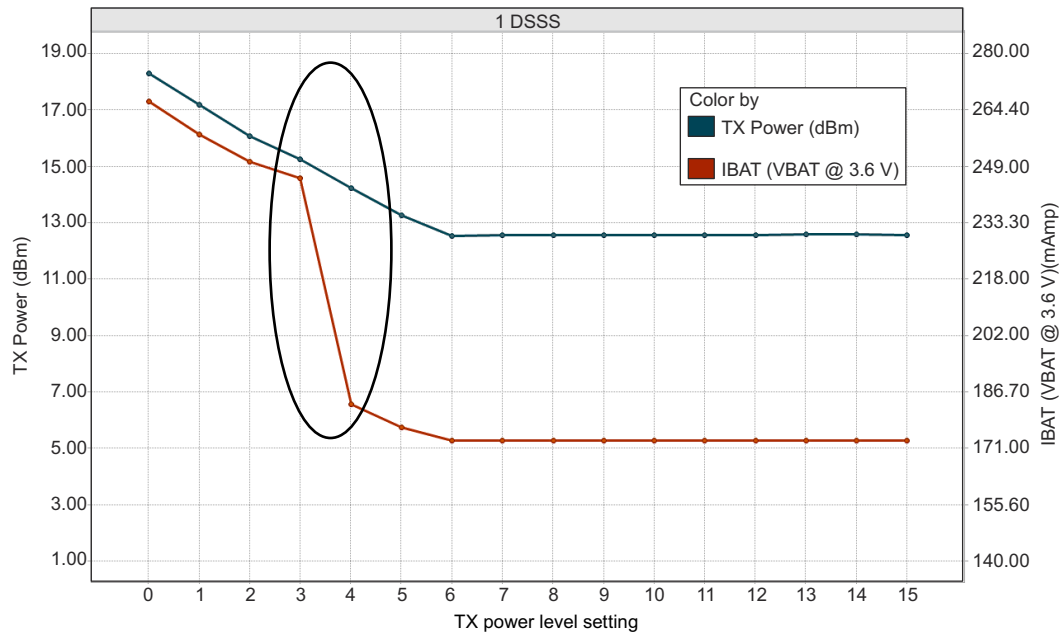
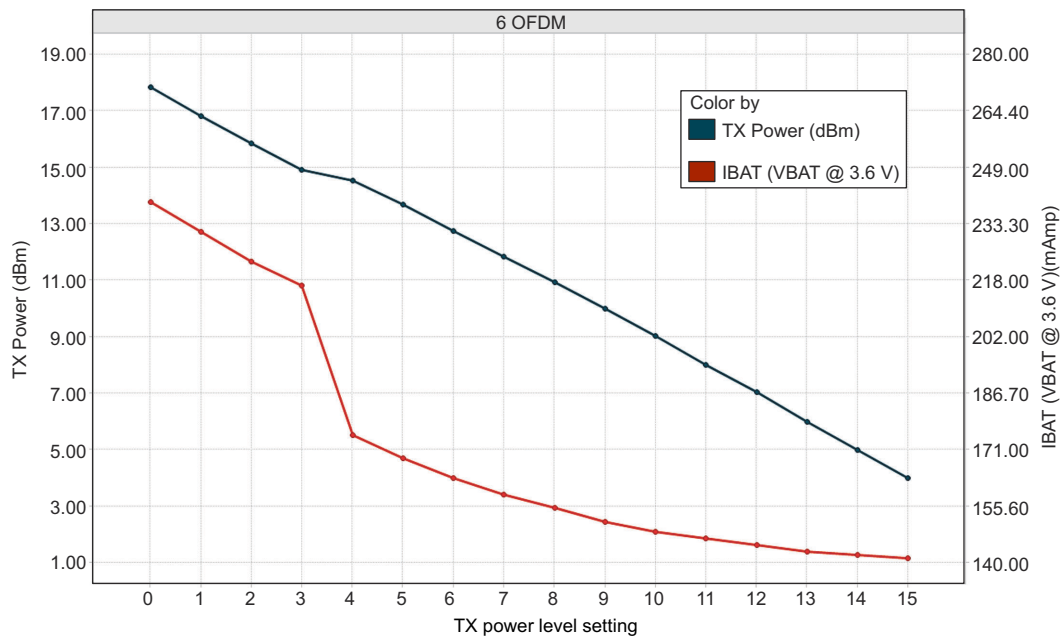
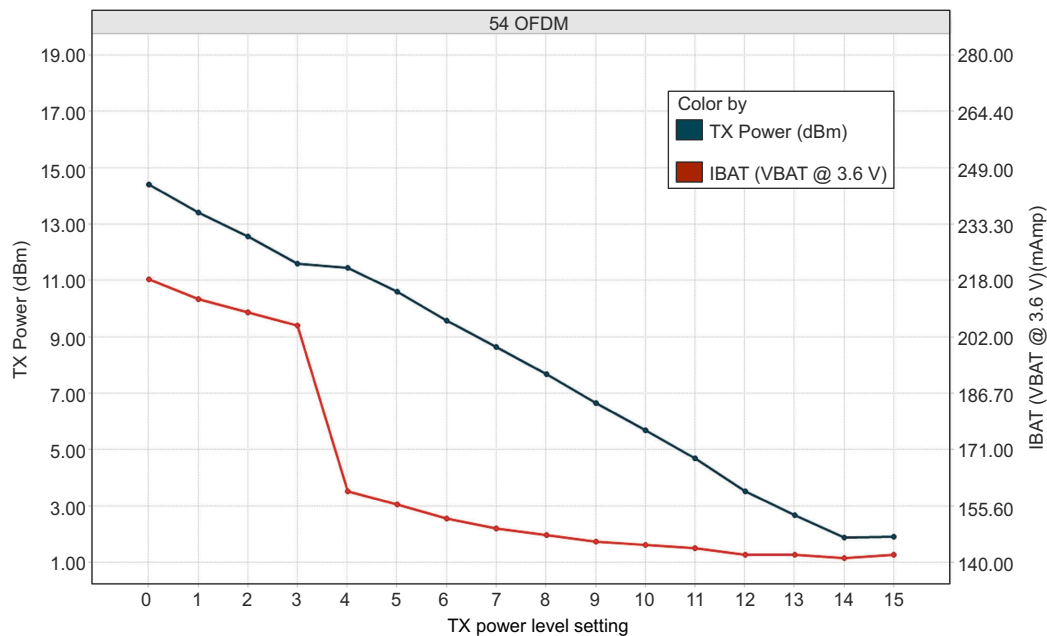

图 7-1. TX Power and IBAT vs TX Power Level Settings (1 DSSS)
图 7-2. TX Power and IBAT vs TX Power Level Settings (6 OFDM)
图 7-3. TX Power and IBAT vs TX Power Level Settings (54 OFDM)
- (1) TX power level = 0 implies maximum power (see 图 7-1, 图 7-2, and 图 7-3). TX power level = 4 implies output power backed off approximately 4 dB.
- (2) LPDS current does not include the external serial flash. The LPDS number of reported is with retention of 256KB of MCU SRAM. The CC3230x device can be configured to retain 0KB, 64KB, 128KB, 192KB, or 256KB of SRAM in LPDS. Each 64-KB block of MCU retained SRAM increases LPDS current by 4 μA .
- (3) DTIM = 1
- (4) The complete calibration can take up to 17 mJ of energy from the battery over a time of 24 ms. In default mode, calibration is performed sparingly, and typically occurs when re-enabling the NWP and when the temperature has changed by more than 20°C. There are two additional calibration modes that may be used to reduced or completely eliminate the calibration event. For further details, see CC31xx, CC32xx SimpleLink™ Wi-Fi® and IoT Network Processor Programmer's Guide.
- (5) The CC3230x system is a constant power-source system. The active current numbers scale based on the V_{BAT} voltage supplied.
- (6) Typical numbers assume a VSWR of 1.5:1.
- (1) TX power level = 0 implies maximum power (see 图 7-1, 图 7-2, and 图 7-3). TX power level = 4 implies output power backed off approximately 4dB.
- (2) LPDS current does not include the external serial flash. The LPDS number of reported is with a retention of 256KB of MCU SRAM. The CC3230x device can be configured to retain 0KB, 64KB, 128KB, 192KB, or 256KB of SRAM in LPDS. Each 64-KB block of MCU retained SRAM increases LPDS current by 4 μA .
- (4) The complete calibration can take up to 17 mJ of energy from the battery over a period of 24 ms. Calibration is performed sparingly, typically when coming out of HIBERNATE and only if the temperature has changed by more than 20°C. The calibration event can be controlled by a configuration file in the serial flash.
- (5) Typical numbers assume a VSWR of 1.5:1.
图 7-1, 图 7-2, and 图 7-3 show TX power and IBAT versus TX power level settings for the CC3230S device at modulations of 1 DSSS, 6 OFDM, and 54 OFDM, respectively. For the CC3230SF device, the IBAT current has an increase of approximately 10mA to 15mA depending on the transmitted rate. The TX power level will remain the same.
In 图 7-1, the area enclosed in the circle represents a significant reduction in current during the transition from TX power level 3 to level 4. In the case of lower range requirements (14dBm output power), TI recommends using TX power level 4 to reduce the current.